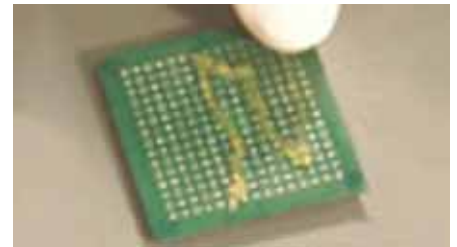

Figure 1
3. Brush tacky flux onto BGA lands. (Figure 1.)